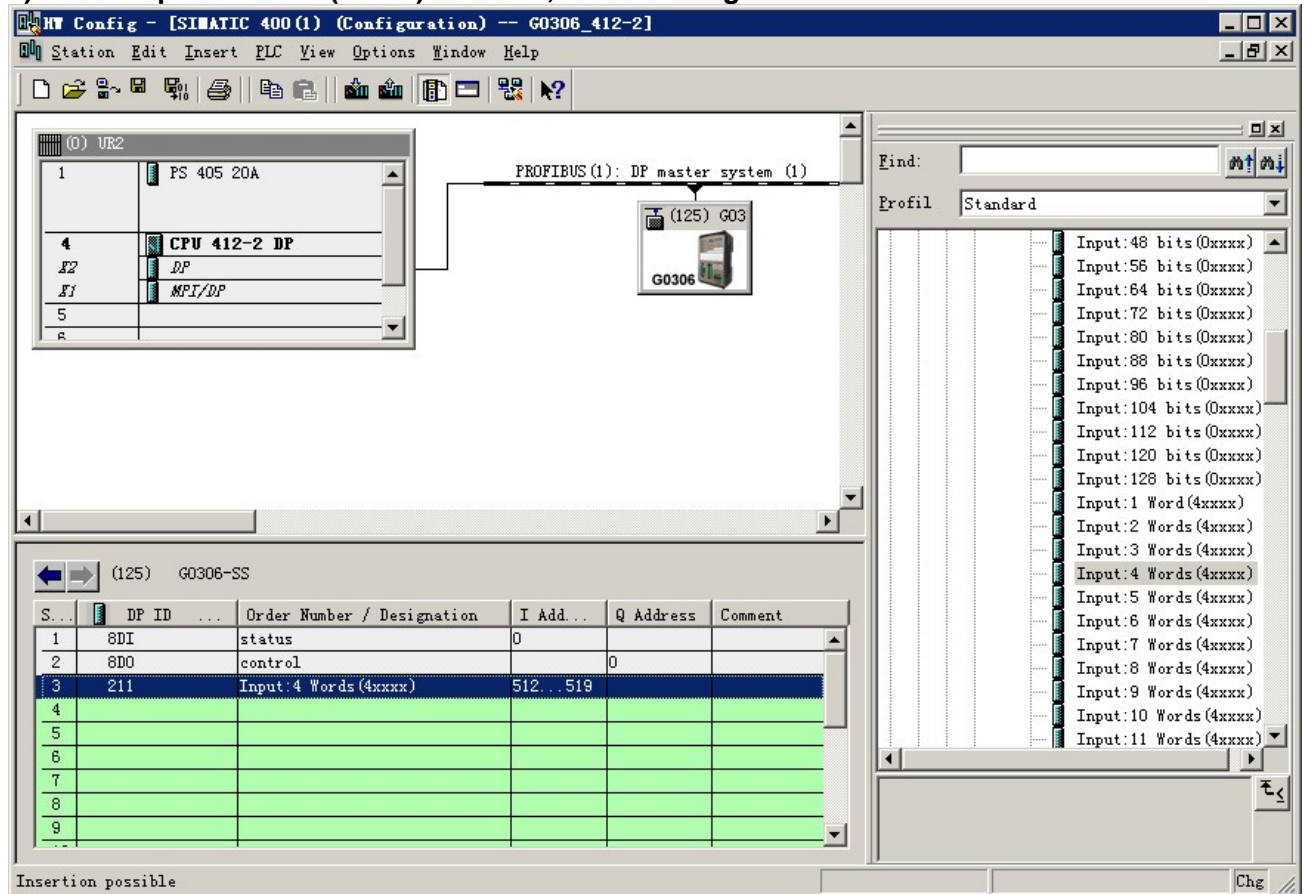

Figure 46 Add “Input: 4 Words (4xxxx)” Module
a) **Add “Input: 4 Words(4xxxx)” module, shown as Figure 46:**